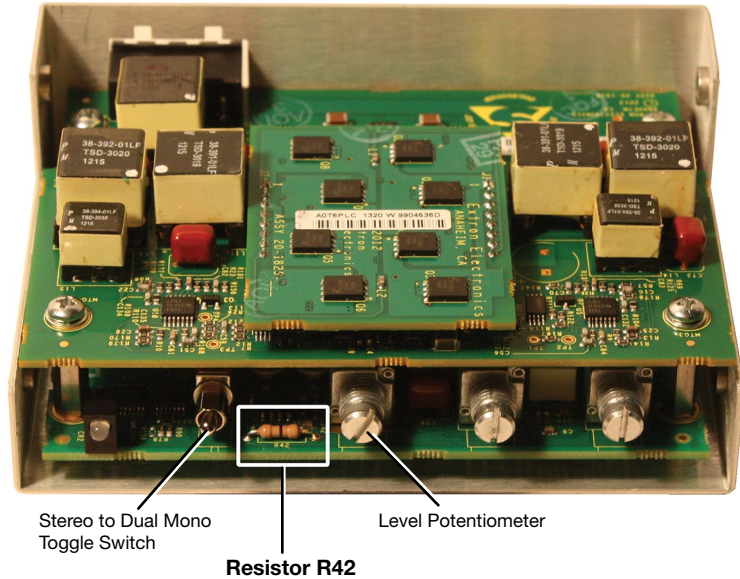

Figure 10. Front View, Showing the Location of Resistor R42
4. Identify resistor R42 at the front of the bottom circuit board between the Stereo to Dual Mono toggle switch (to the left) and the Level potentiometer (to the right). The resistor is shown in the white box in figure 10.